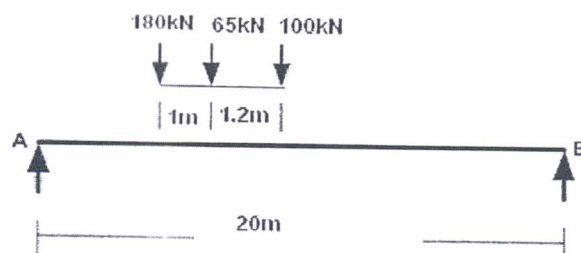

Fig. 11
- (b) The train of loads crosses the girder AB as shown in Fig. 11. Find the maximum positive and negative end shear for the girder. Assume 180 kN load leading the train: [8]